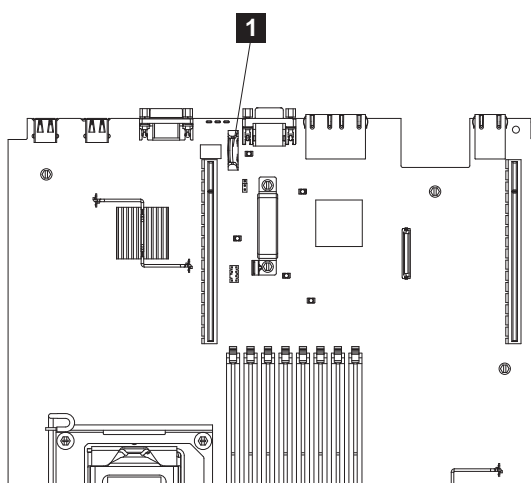

Figure 186. Location of the SAN Volume Controller 2145-CG8 or 2145-CF8 CMOS battery holder
7. Locate the battery **1** on the system board. Figure 186 shows the location of the battery.